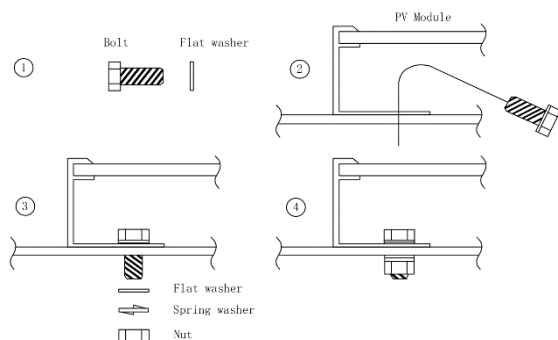

figure 3
- The method and the specifications of the fixing parts are shown in the figure 3 below: